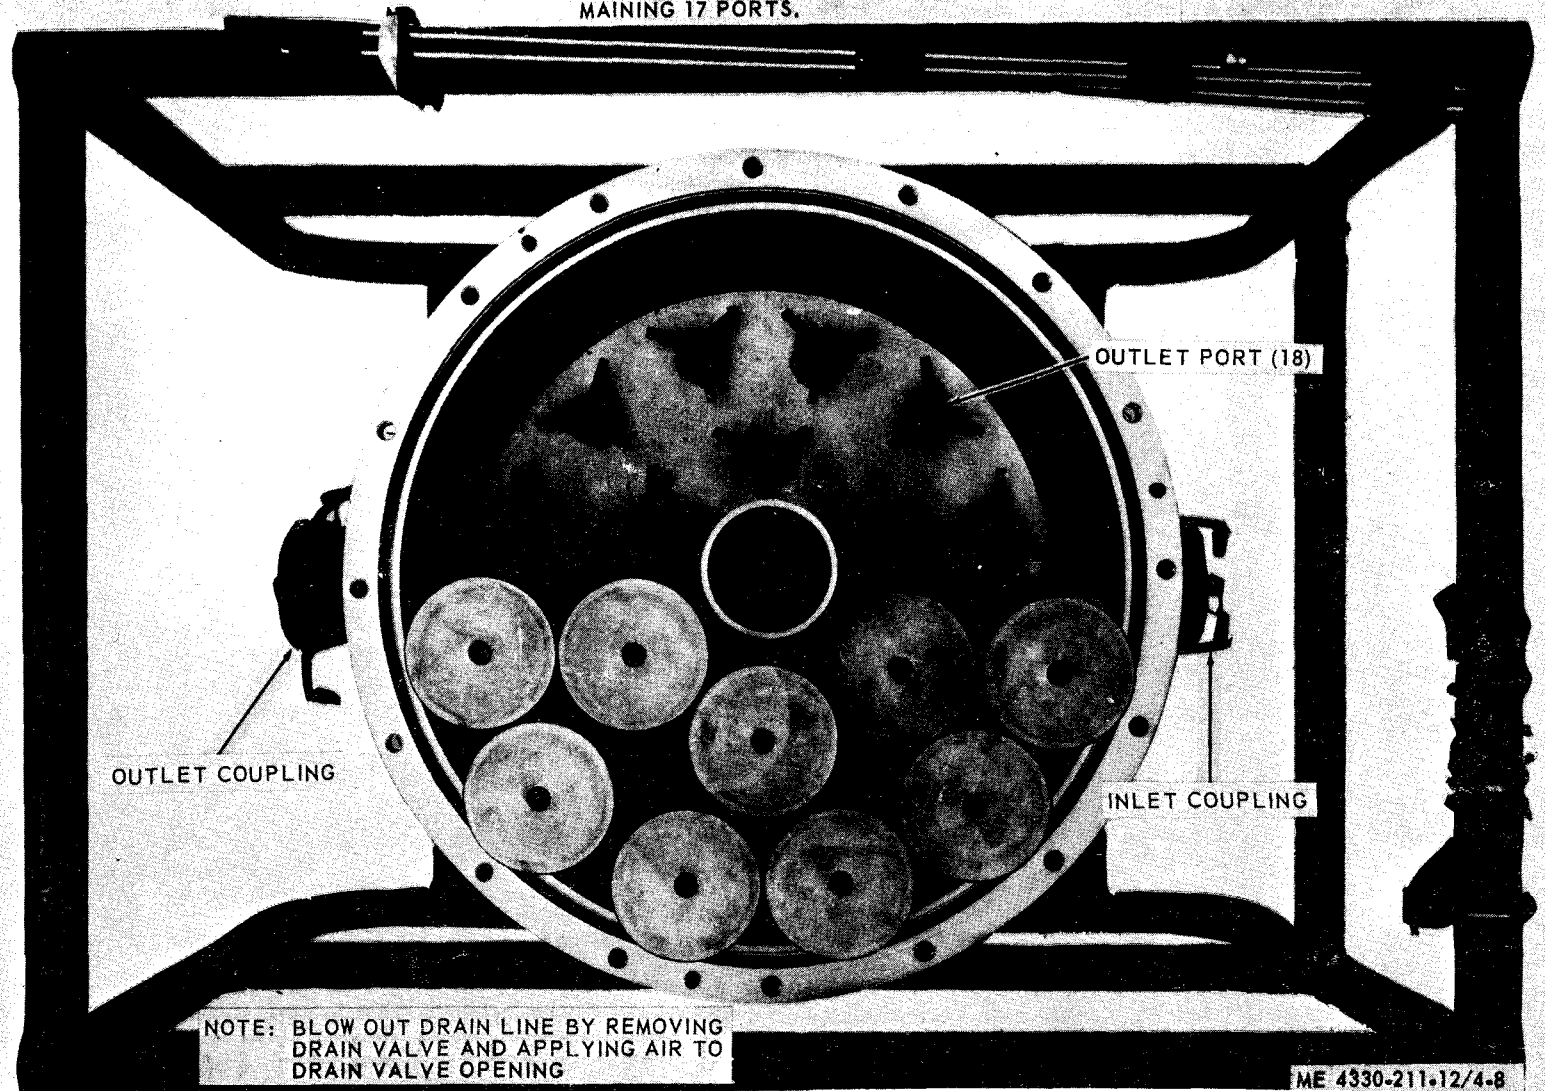

Figure 4-8. Outlet port service.
b. Refer to figure 4-8 and service outlet port as instructed.